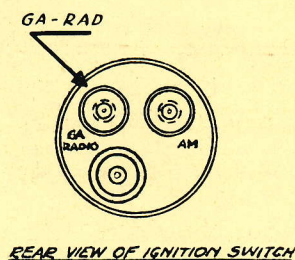

FIGURE 5
1. Connect the terminal end of the "A" lead to the switch terminal GA-RAD. Refer to Figure 5, showing the back of the ignition switch.